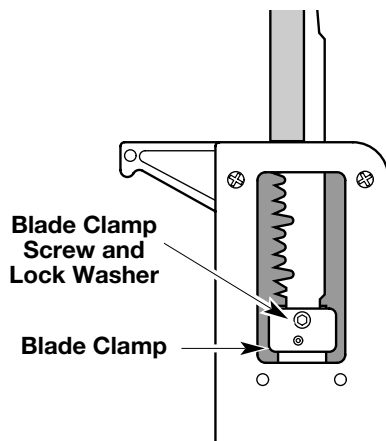

Fig. 2
3. Install the blade clamp over the blade and pin. Install the screw with lock washer and tighten securely with the allen wrench (Fig. 2).